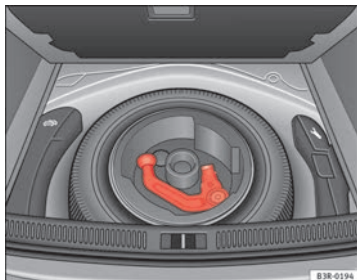

Fig. 151 Luggage compartment: Spare wheel with towing bracket
- Vehicles with a spare wheel ⇒ **fig. 151**.